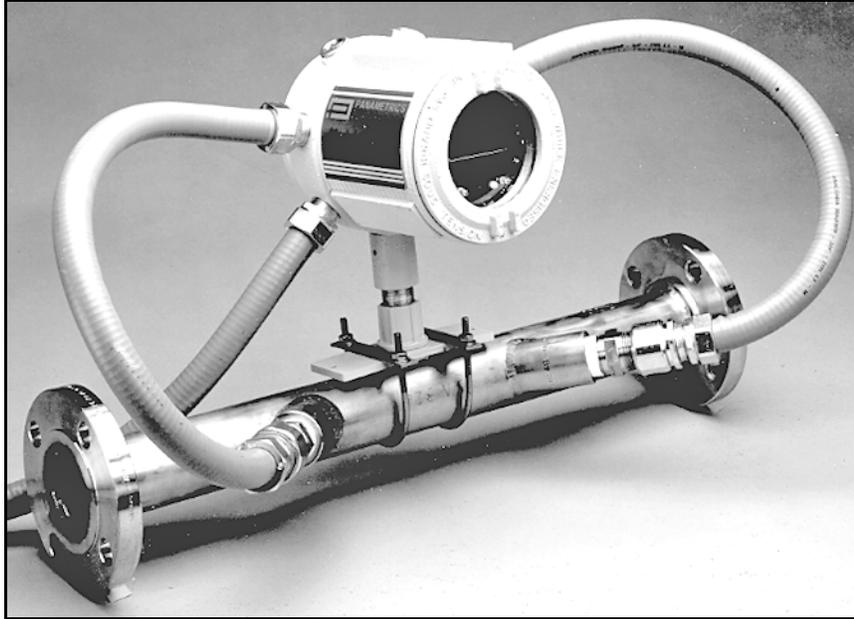

Figure 1: A Typical Model XMT868i System
Because the relative location of the flowcell and the electronics enclosure is important, use the guidelines in this section to plan the XMT868i installation. *Figure 1* below shows a typical installation.
*Figure 1 on page 2 shows a typical Model XMT868i spoolpiece, with a mounting bracket to hold the electronics enclosure. For detailed instructions on installing the transducers and/or spoolpiece, refer to the supplied drawings and the appropriate *Transducer Installation Guide*.*